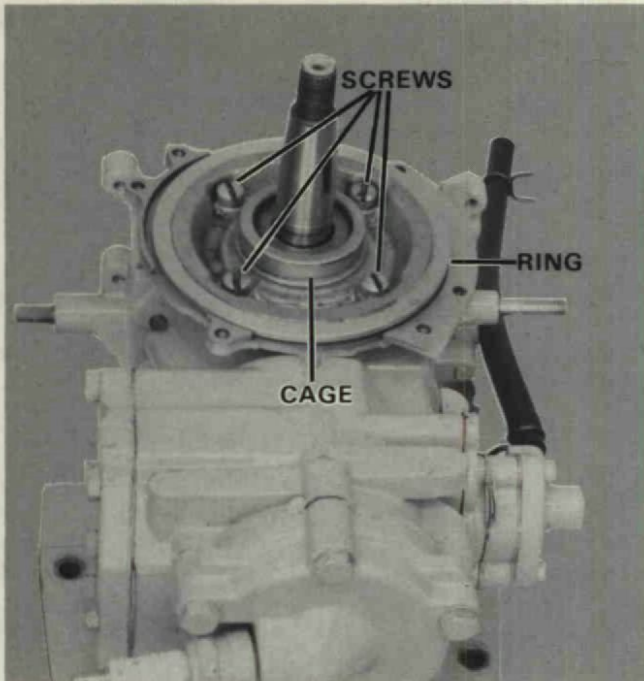

Figure 15. Removing Bearing Cage and Stator Ring.
4. Remove four (4) fill head screws securing bearing cage with seal, and stator ring to power head. Remove bearing cage with seal and stator ring. Figure 15.